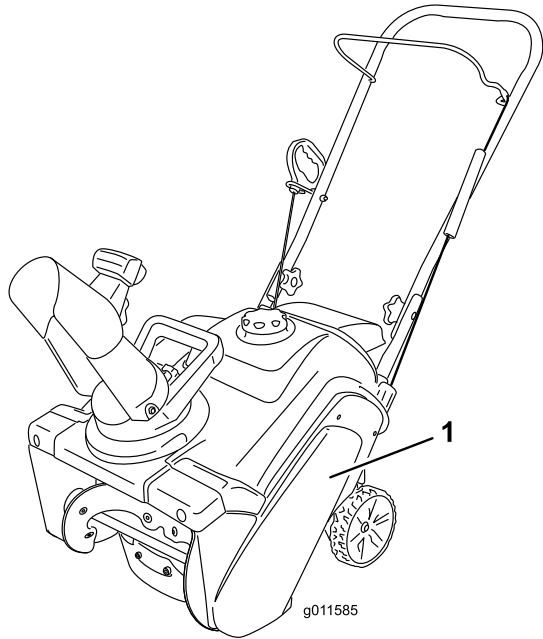

Figure 26
1. Remove the 4 bolts that hold the drive-belt cover (Figure 26) in place.